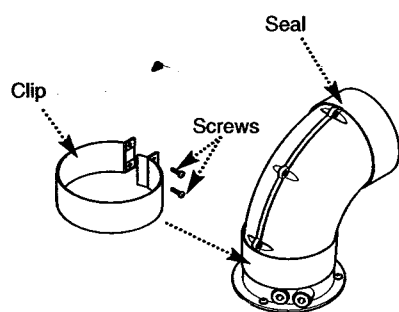

Fig. 23
10. Remove the screws from one of the clips provided. Prise the clip apart and fit it over the seal (Fig. 23). Set the elbow to the required angle.